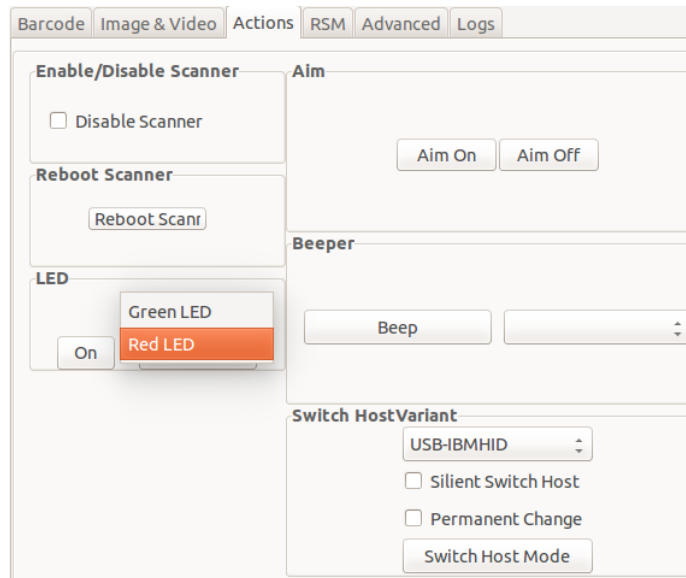

Figure 4-8 LED Selection
- ✓ **NOTE** The *<scannerID>* tag in the XML contains the scanner ID selected in the *Connected Scanners* list. The *<arg-int>* tag in the XML contains the corresponding action value to turn on or off the LED selected from the drop-down list in Figure 4-8.